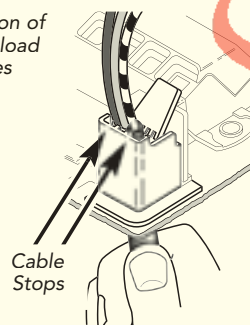

Figure 7b
6. Continue pushing the cable through the clamp until the outer sheath reaches the cable stops. See fig. 7b. The jaws must clamp on the outer sheath.